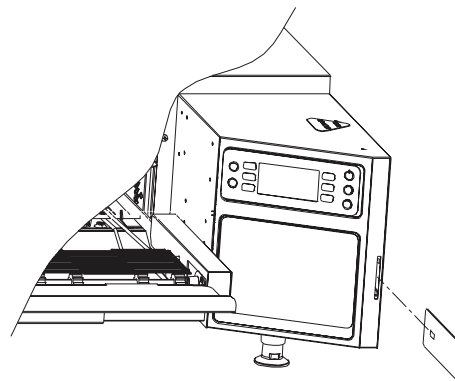

Figure 18: Loading a Smart Card
2. Insert a smart card into the smart card slot (Figures 18 and 19), with the gold chip facing the front of the oven.